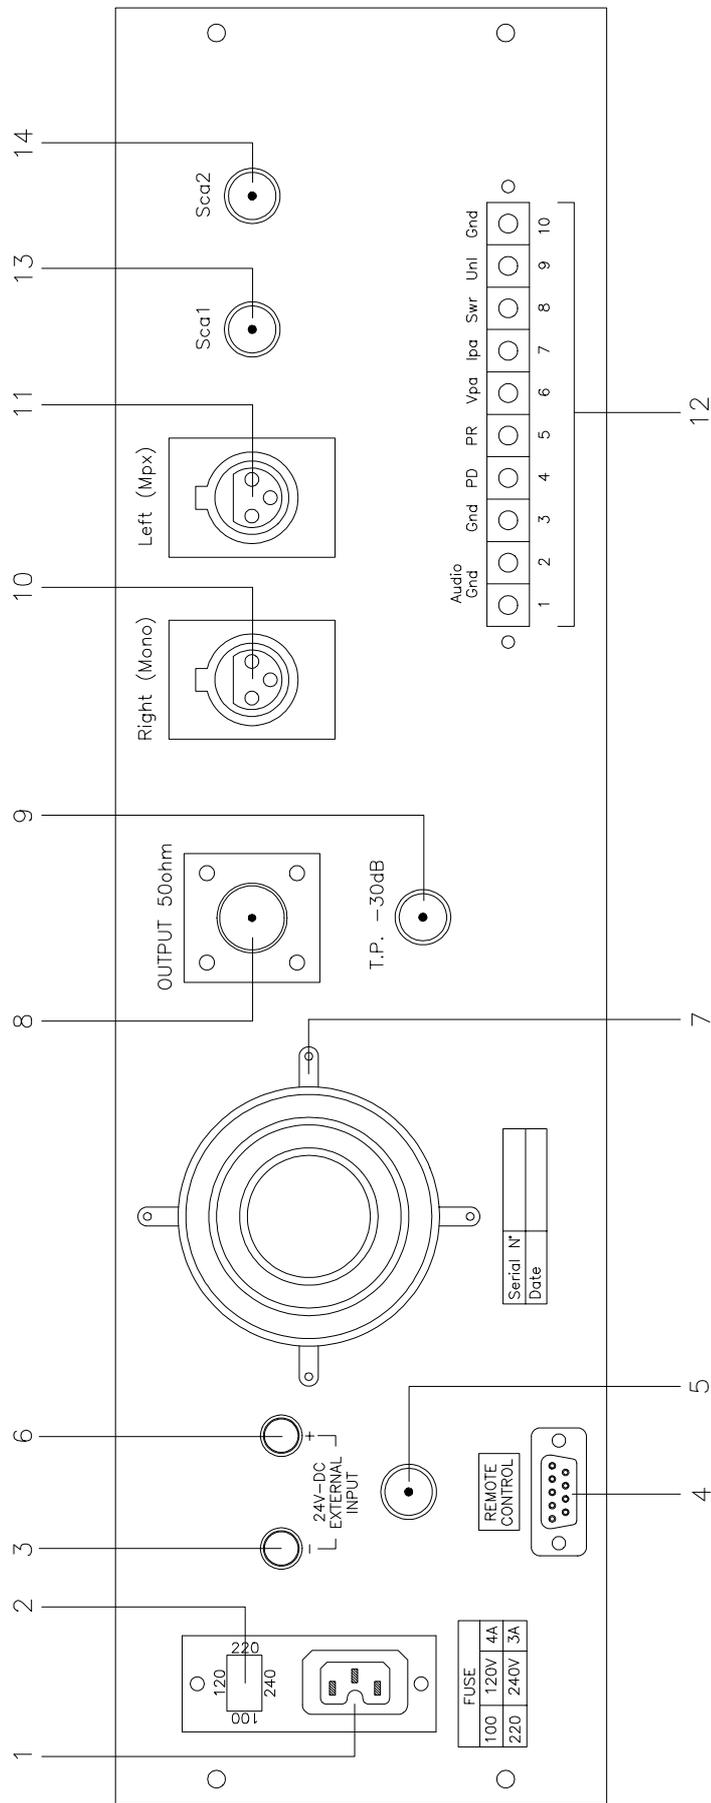

FIG. 2
REAR PANEL VIEW (Fig.2)
First of all select the correct supply voltage using the selector situated on the rear panel; use a screwdriver to raise the cover (2 Fig.2) on which are written the various voltages, rotate it until the arrow points to the correct voltage and re-insert it.
- 2) Connect a 30 dB attenuator between the R.F. Output Connector (8 Fig.2) and power meter (see SETUP1 Fig.4).
- 3) Connect a switch, via a cable, to the INTERLOCK connector (5 Fig.2) on the rear panel so that the switch is able to short the central conductor to this screen and leave the switch in the short-circuit position.
- 5) Connect power to the unit via the VDE socket (1 Fig.2).
Connect a low-distortion audio frequency generator to the MONO input (10 Fig.2) or STEREO inputs (10-11 Fig.2).